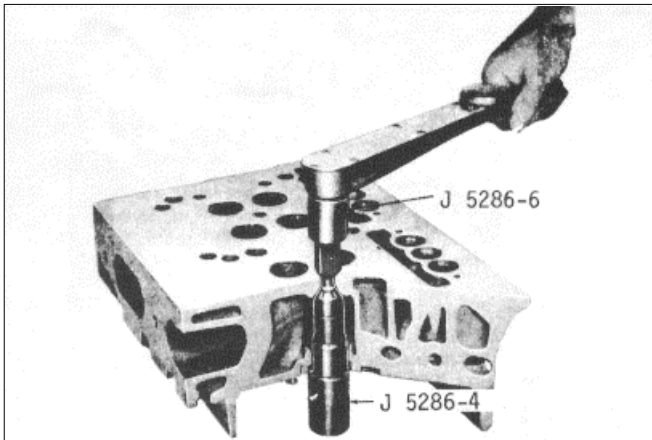

Fig. 3
- (4) With the injector tube properly positioned in the cylinder head, upset (flare) the lower end of the injector tube as follows:
- (a) Turn the cylinder head bottom side up, remove the pilot J 5286-5 and thread the upsetting die J 5286-6 into the tapped end of the installer J 5286-4 (Fig. 3).